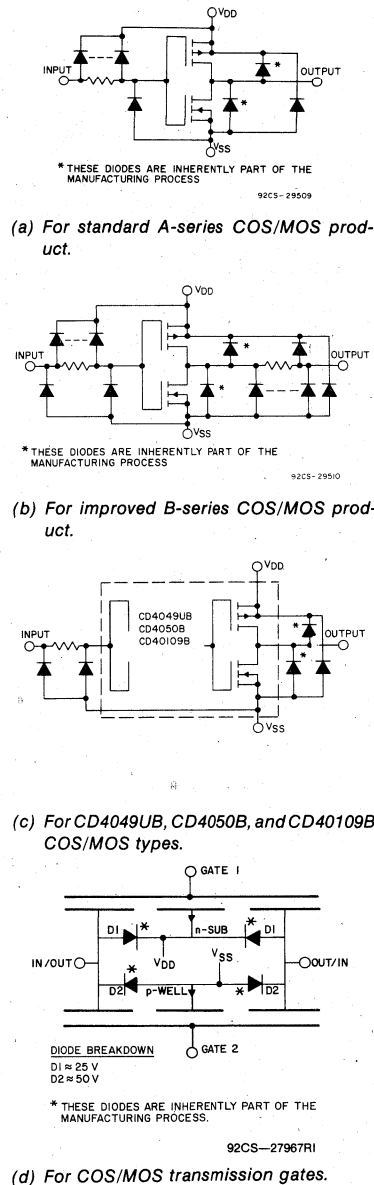

Fig. 3—Gate-oxide protection networks used in RCA COS/MOS integrated circuits.
A problem occasionally encountered in handling and testing low-power semiconductor devices, including MOS and small-geometry bipolar devices, has been damage to gate oxide and/or p-n junctions. Fig. 3 shows the gate-oxide protection circuits used to protect COS/MOS devices from static electricity damage. ICAN-6572 gives further information on protection circuits. Although these circuits are included in all COS/MOS devices, the handling precautions in ICAN-6572 and ICAN-6525 should be observed.
7. Remove the device from the test socket and insert it into a conductive carrier. COS/MOS devices under test must not be exposed to electrostatic discharge or forward biasing of the intrinsic protective diodes shown in Fig. 3.